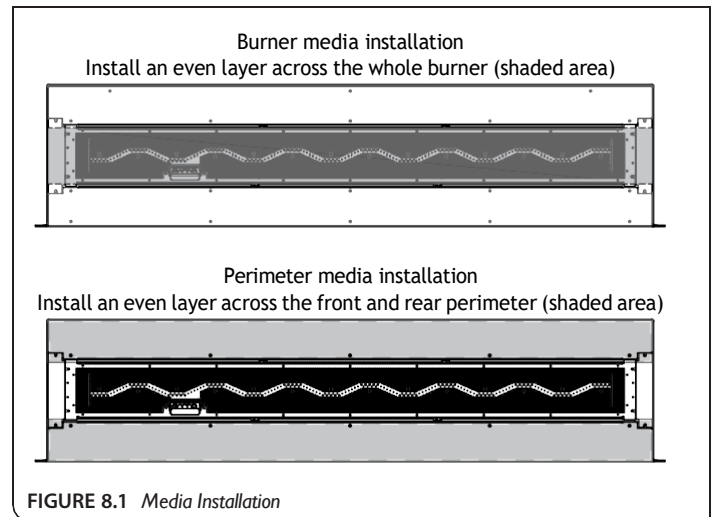

FIGURE 8.1 Media Installation
1. Install an even layer of your chosen media across the whole burner. See **FIGURE 8.1** below.
1. Install an even layer of media across the front and rear perimeter. See **FIGURE 8.1** below.